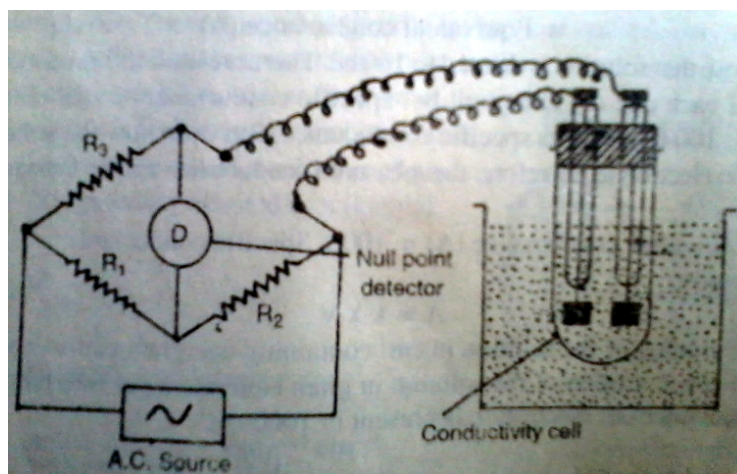

Figure 2. Determination of conductance & specific conductance by Wheatstone bridge
1. *Measurement of conductance:* The conductance of a solution is reciprocal of the resistance; therefore, the experimental determination of the conductance of a solution involves the measurement of its resistance. The resistance is commonly measured by Wheatstone bridge method as shown in the Figure 2. The solution whose resistance has to be measured is placed in a conductivity cell and is connected to the Wheatstone bridge. The cell is placed in thermostat to keep the temperature constant.